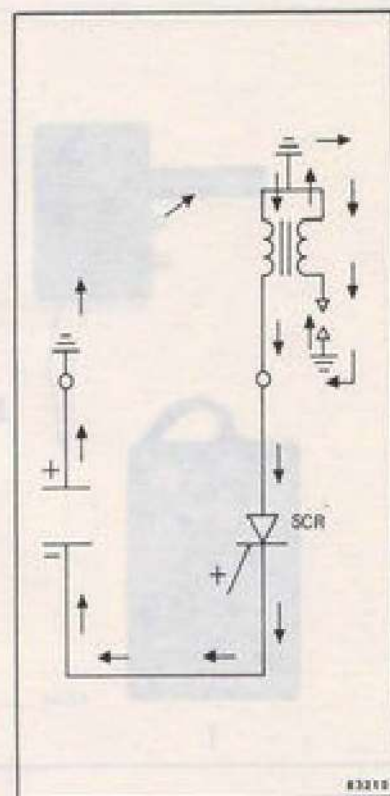

Figure 4-6. Capacitor Discharge
#### CAPACITOR DISCHARGE (CD) CIRCUIT (See Figure 4-6)
When SCR #1 is triggered the positive (+) charge stored in the capacitor flows to engine ground, enters the #1 ignition coil through the grounded primary winding, and then flows through SCR #1 to the other side of the capacitor. See Figure 4-6.